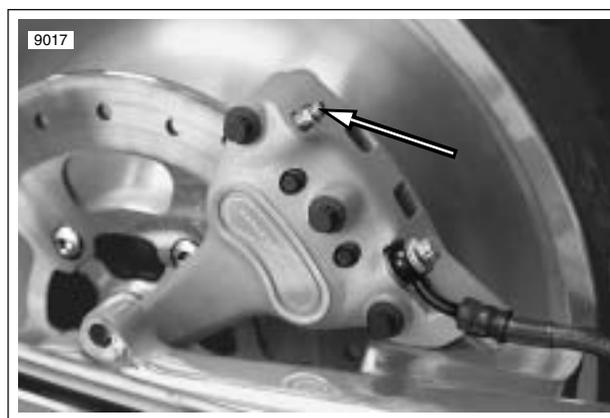

Figure 1-29. Rear Brake Bleeder Valve
- b. Rear brake bleeder valve-see Figure 1-29.